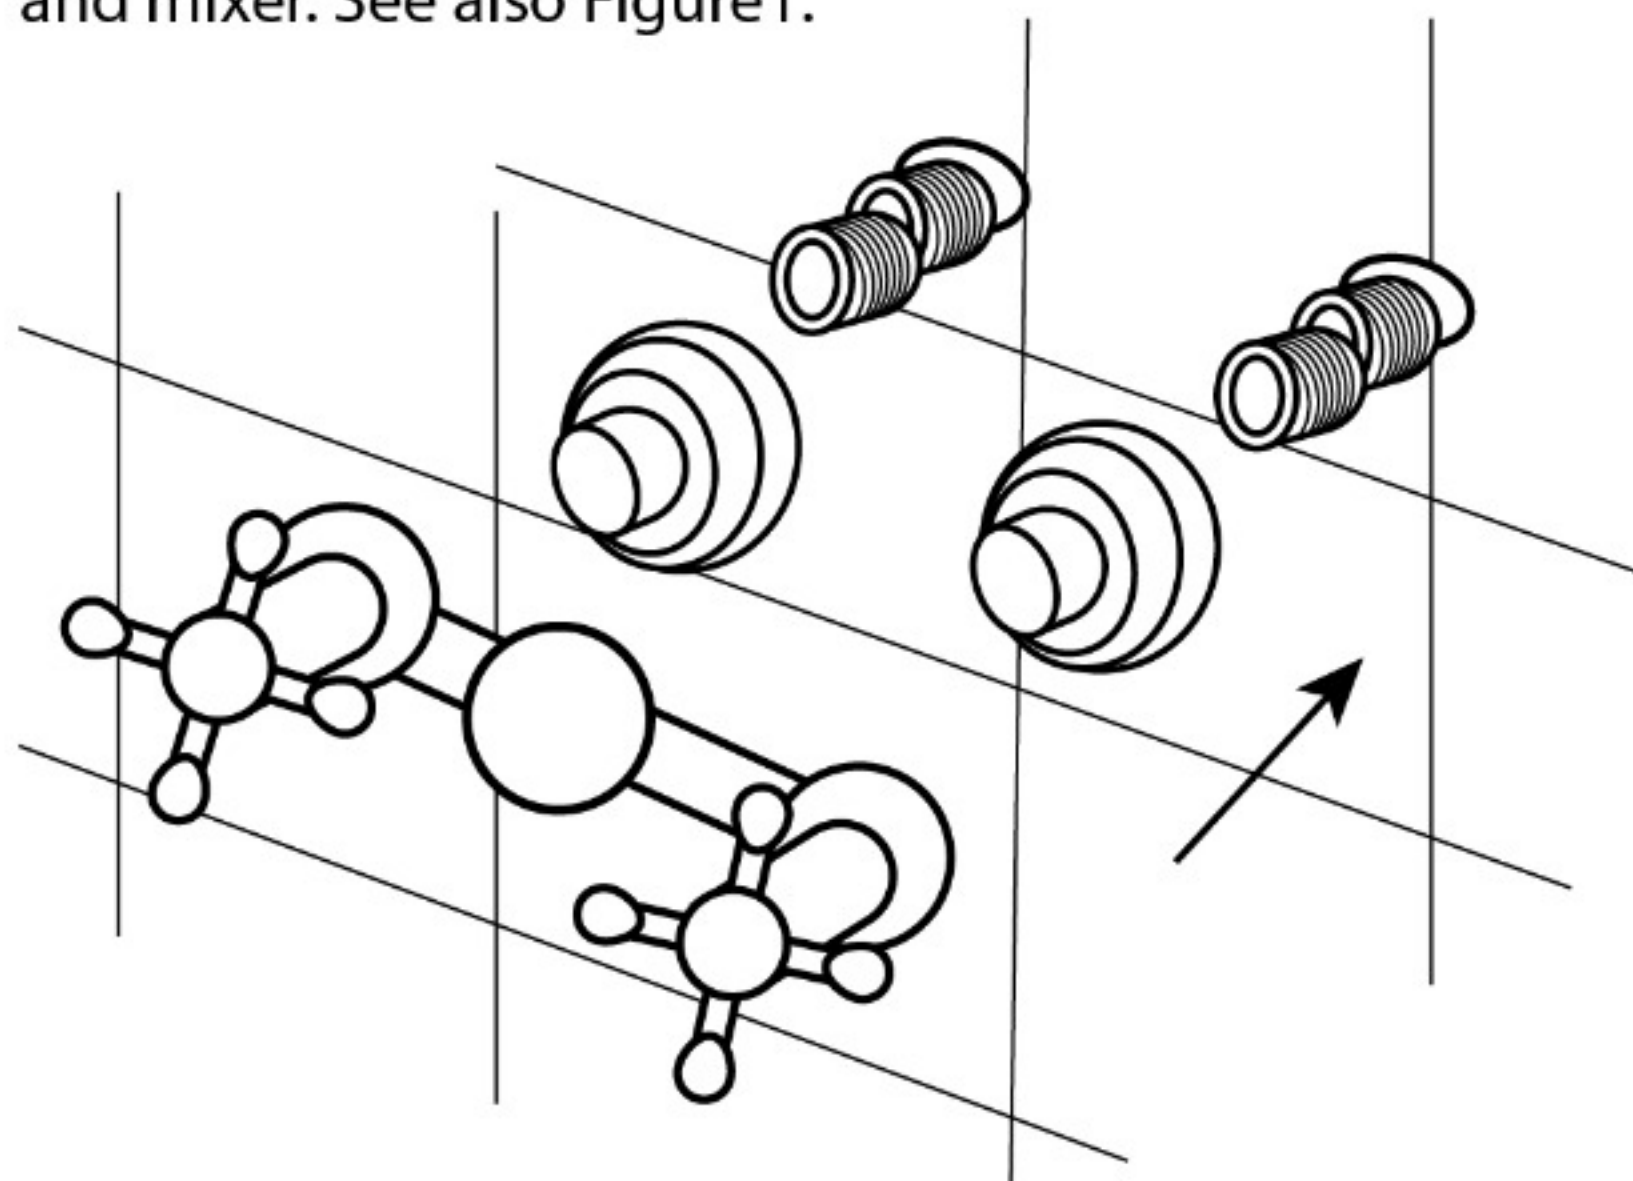

Figure1.
1. Follow steps a through c to install the escutcheon plates and mixer. See also Figure1.